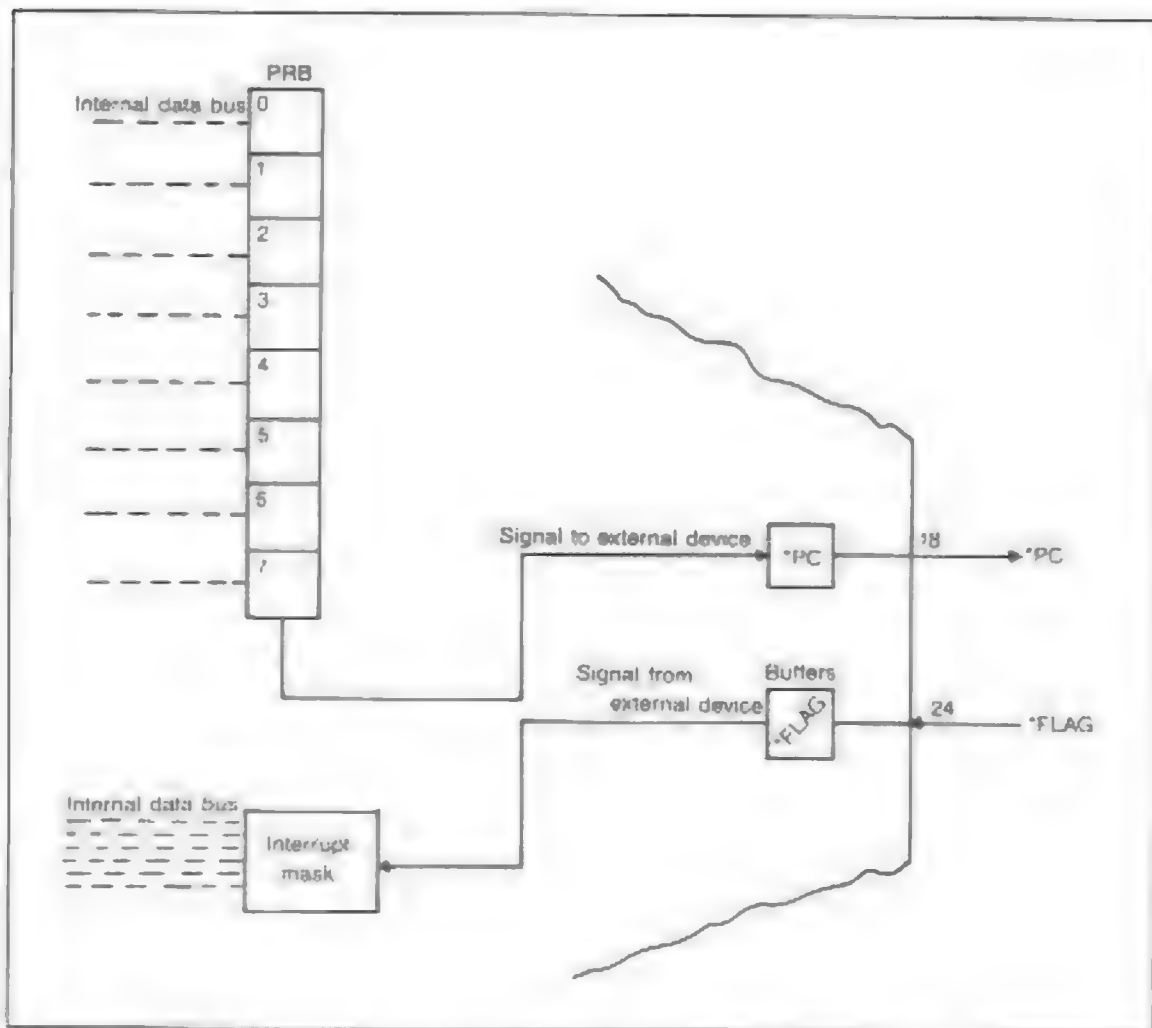

Fig. 19-4 *PC and *FLAG of the CIA are an output and an input that is used during handshaking
*FLAG is an input pin that connects to the internal data bus of the CIA and, therefore, to the inputs of both the A and B port circuits. *PC is an output pin that exits only from the B port through a special *PC buffer stage. *PC will output a low for one cycle after any read or write of the B port. Refer to Fig. 19-4. During handshaking, this automatic low can be used to talk to another device. The signal could be code saying, "data is ready" or "data has been received."